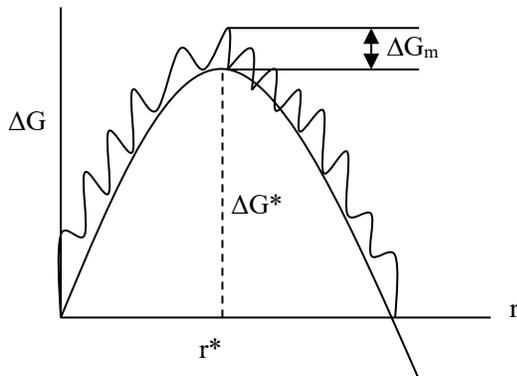

**FIGURE 5.24**
*In a phase transformation, say  $\alpha \rightarrow \beta$ ,  $\beta$ -phase must nucleate and grow. The kinetics of such phase transformation is cooperatively determined by two kinetic factors: Nucleation and Growth, as depicted in Figure 5.24 cited from the Book, "Phase Transformations in Metals and Alloys", by D. A. Porter; K. E.*